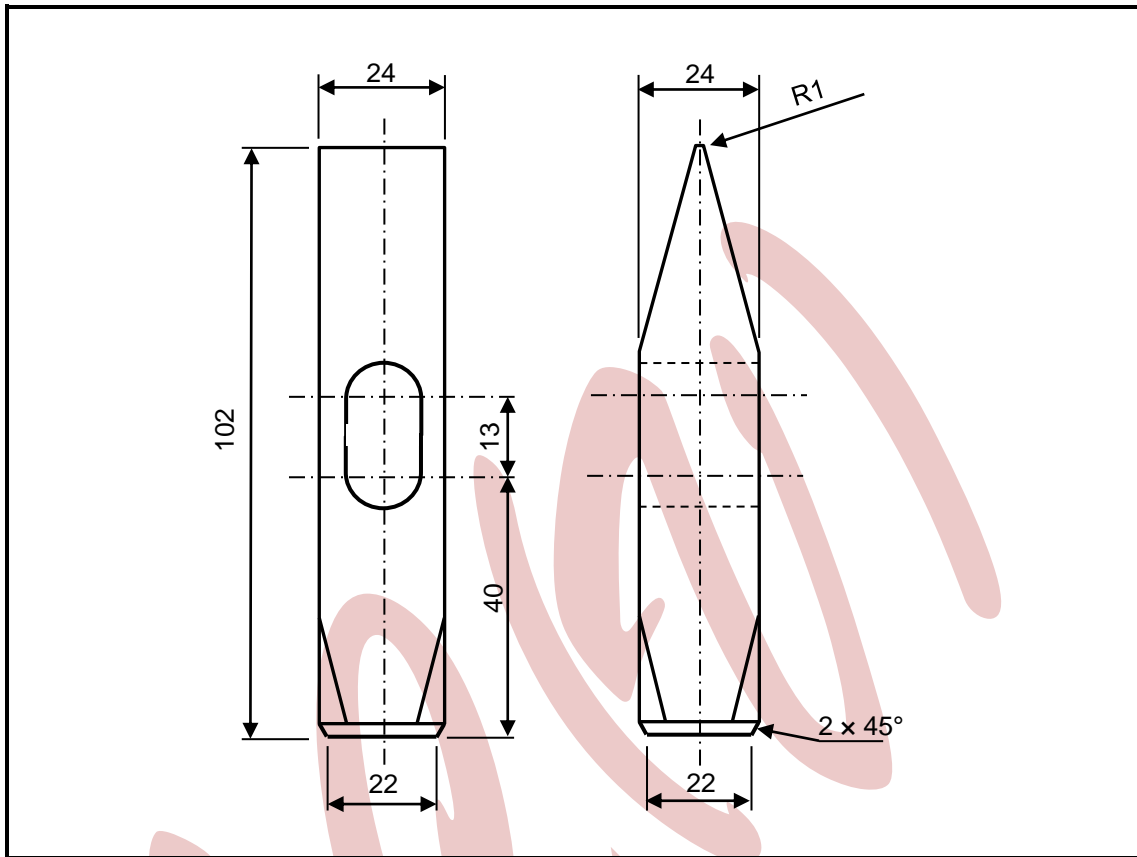

FIGURE 3
5.3 FIGURE 3 shows a hammer head made of mild steel.
Use the ADDENDUM (attached) to complete the project plan to manufacture the hammer head made of mild steel shown in FIGURE 3 in the correct sequence.